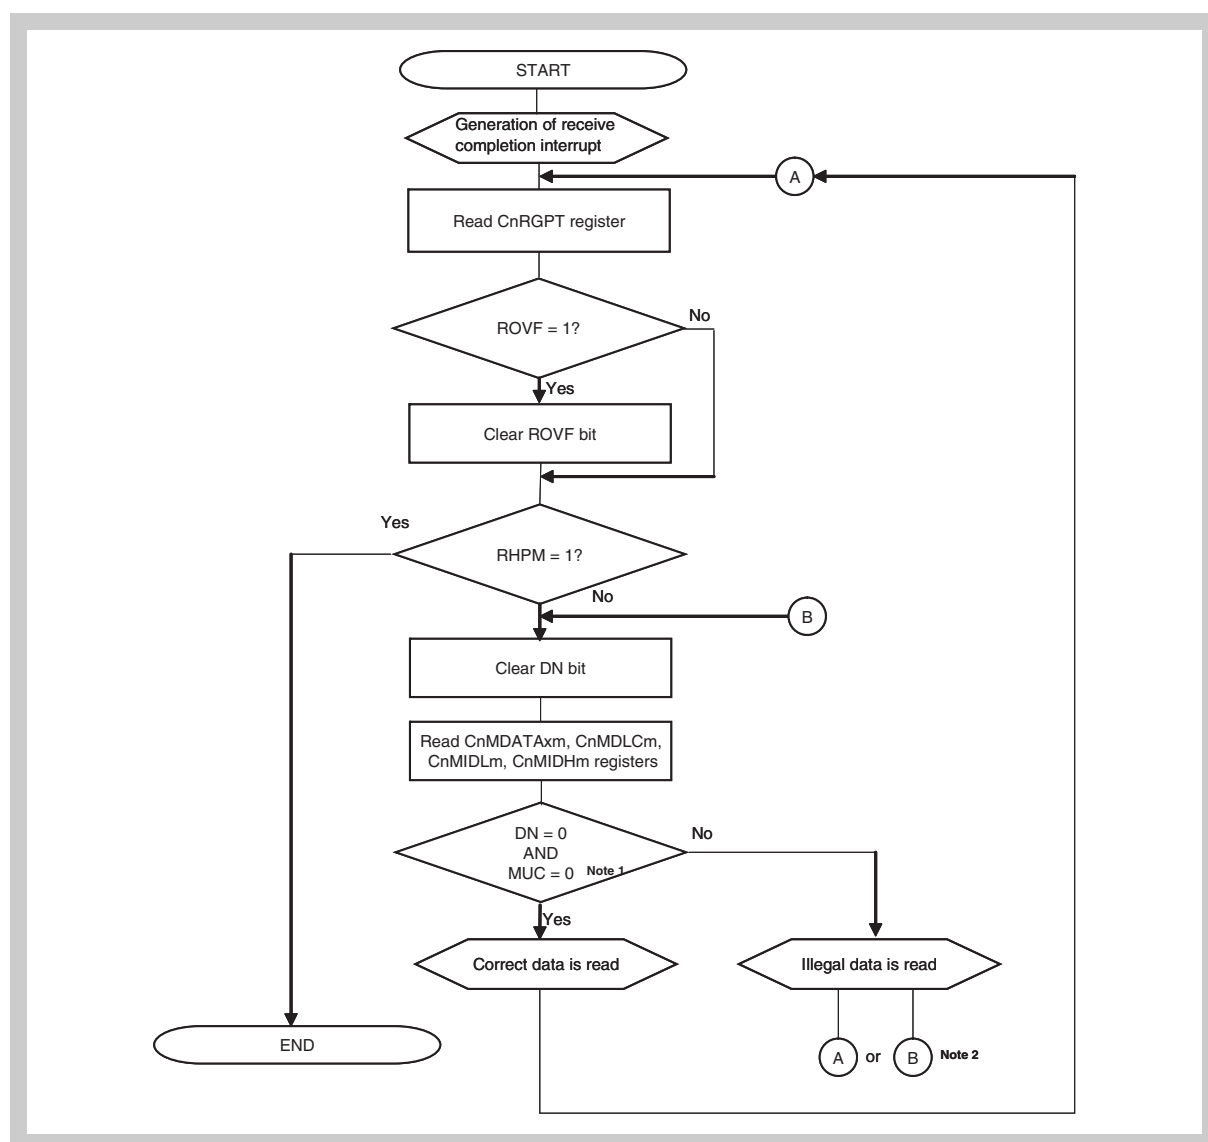

Figure 18-50 Reception via interrupt (using CnRGPT register)
5. It can be used alternatively to *Figure 18-50 on page 642*.